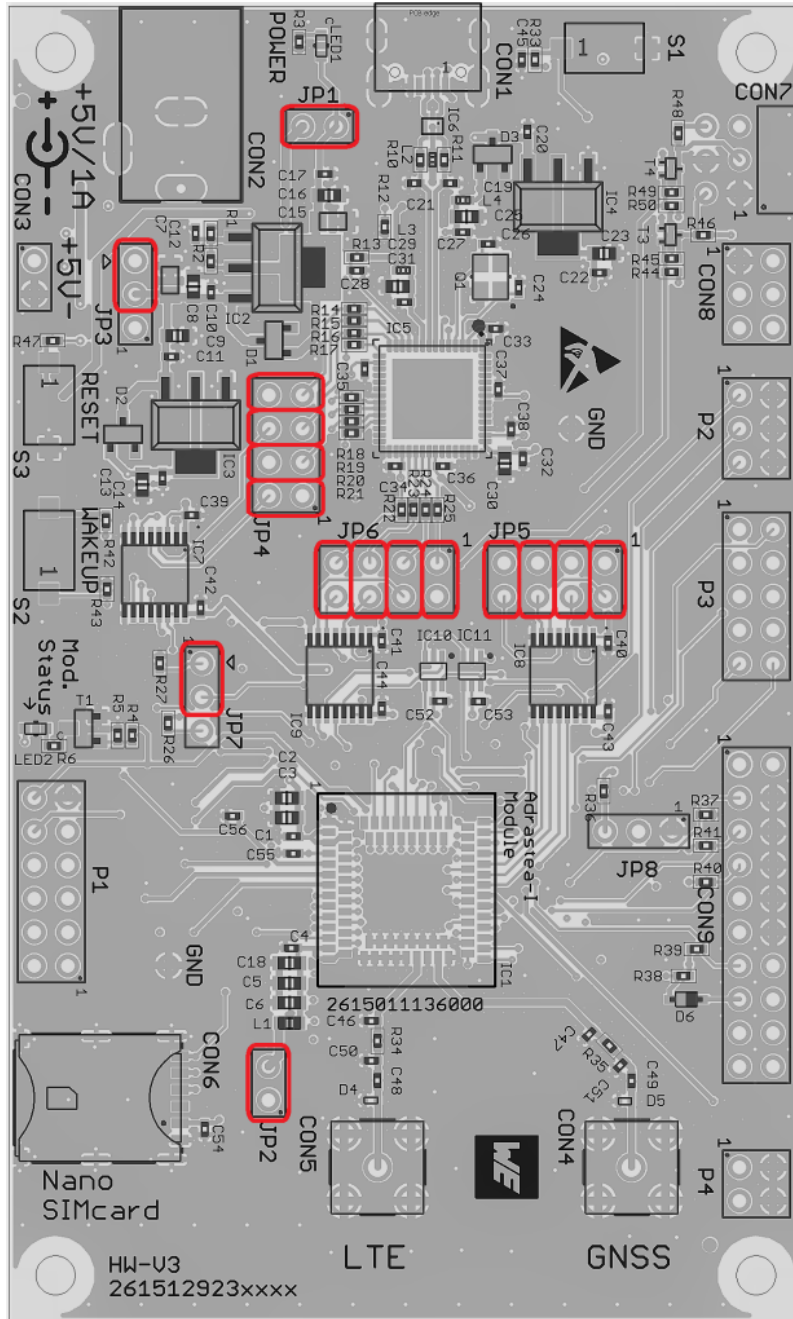

Figure 6: Jumpers, default
- Step 1: To run the EV-Board place the jumpers on default location, as shown in figure 6.